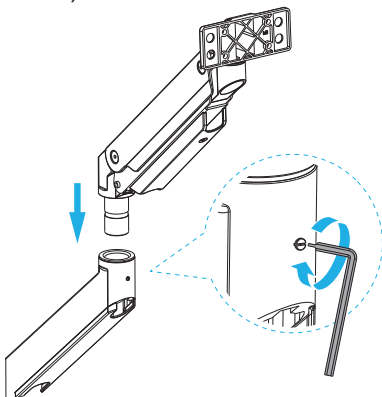

Figure 13
3. Insert the **Spring Arm** onto the **Swivel Arm**. (Figure 13)
4. Use the **3mm Hex Key with Flat Screwdriver** to tighten the **Screw**. (Figure 13)